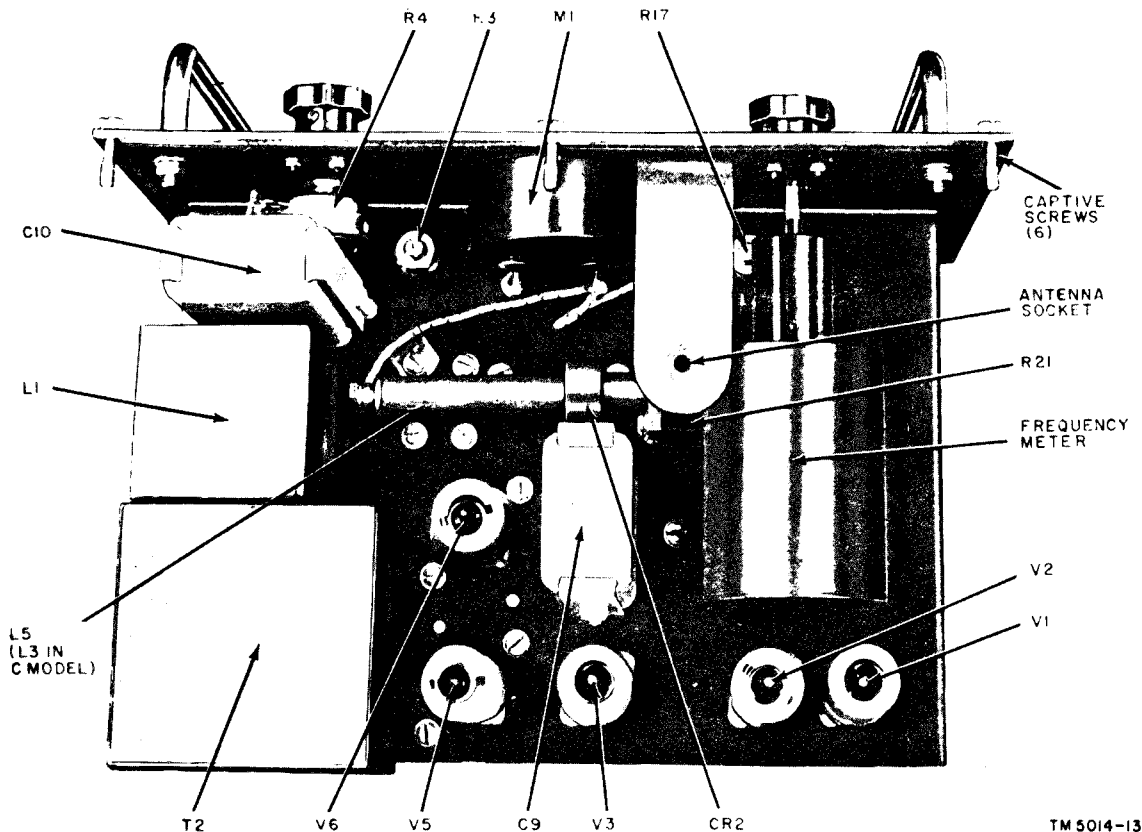

Figure 12. Test Set TS-538(\*)/U, top view of chassis.
*a. General.* In the troubleshooting chart (*d* below), procedures are outlined for localizing troubles to a stage within the sections of the test set. Parts locations are indicated in figures 12 through 15. Voltage and resistance measurements are shown in figures 10 and 11. Depending on the nature of the operational symptoms, one or more of the localizing procedures will be necessary. When trouble has been localized to a particular stage, use voltage and resistance measurements to isolate the trouble to a particular part.
When the attenuator, frequency meter and detector unit, and rf oscillator assemblies are removed from the test set chassis, the calibration of the test set is affected. When reassembling these parts, refer to paragraphs 31 through 38 for calibration procedures. Refer to figures 12 through 15 for location of parts.
- (6) Swing the frequency meter cavity about 90°. On the top side of the chassis, remove the power monitor lead from L5 (fig. 12).
- (7) Carefully pull the frequency meter and detector unit assembly away from the chassis: